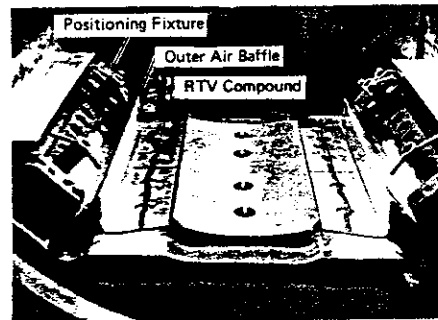

Fig. 15 - Outer Air Baffle Positioning Fixtures
3. Place one outer air baffle on either side of positioning fixture into the location provided, Fig. 15. Ensure the baffle is flat on the coil pad of the frame. Tighten lock screw handle on end of fixture to lock baffle in place. Check tightness of the two top hand screws to ensure positioning fixture is held securely in frame.
5. Apply a bead of RTV compound, 6 mm (1/4") in diameter and 356 mm (14") long on the coil side of the outer air baffle, Fig. 15. The RTV should be centered across the four 25 mm (1") diameter baffle holes. This application will require approximately 85 g (3 oz) per stator. Refer to Service Data for RTV part number.